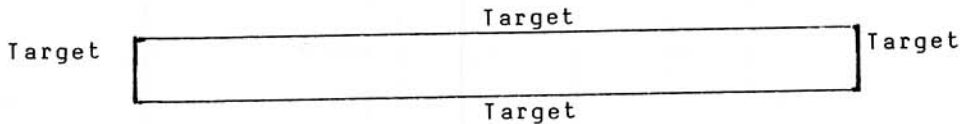

Figure 3-5 Target Layout
- (1) a flat area approximately 30 - 50 metres in length; and
- (2) an area affording use of different types of cover, ie, bushes, walls, trees, rubble, low banks, etc.
- b. Put out targets as in Figure 3-5 on the fairly flat area.